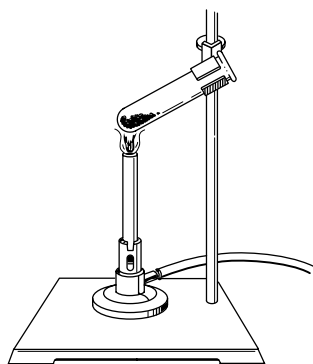

Figure 11.1
1. Iron metal and copper(II) sulfate solution. Half-fill a small test tube with copper(II) sulfate solution. Add about 2 g of iron filings to the solution. After 5 minutes, record your observations.
2. Lead(II) nitrate and potassium iodide solutions. Put 2 mL of lead(II) nitrate solution into a small test tube. Add 5–10 drops of potassium iodide solution. Record your observations.
4. Action of heat on hydrogen peroxide. Add 2 mL of the 3% hydrogen peroxide solution to a medium-sized test tube. Clamp the test tube to a ring stand, as shown in Figure 11.1. **CAUTION:** *Make sure that the mouth of the tube is pointed away from you and away from everyone else.* Heat the solution *very gently*. Identify any gas that forms by using crucible tongs to insert a *glowing* wood splint into the mouth of the test tube. Record your observations.